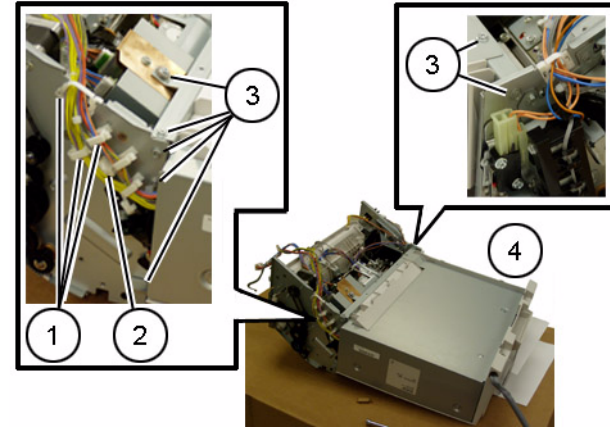

Figure 4 Removing the Stacker Tray (af422107)
10. Remove the Stacker Tray (Figure 4)